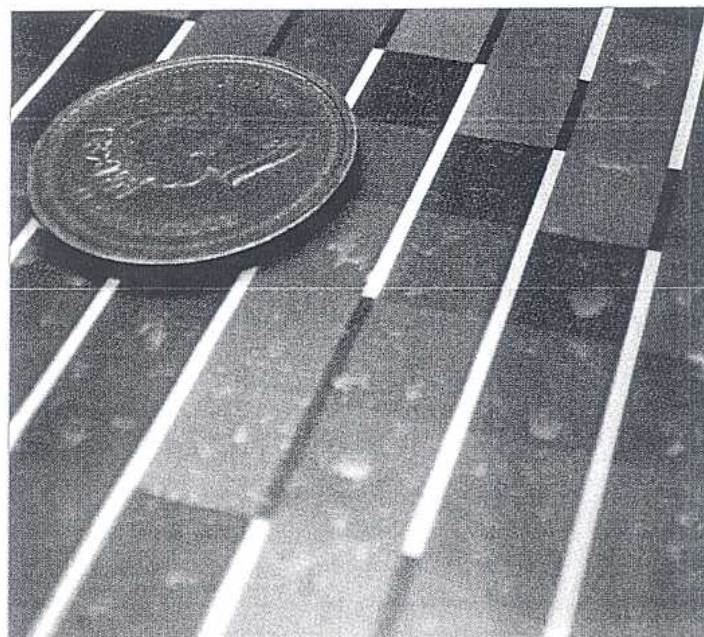

Figure 3
- 3) Inspect the laminated target for bubbles (See **Figure 3**) which could throw off the readings.